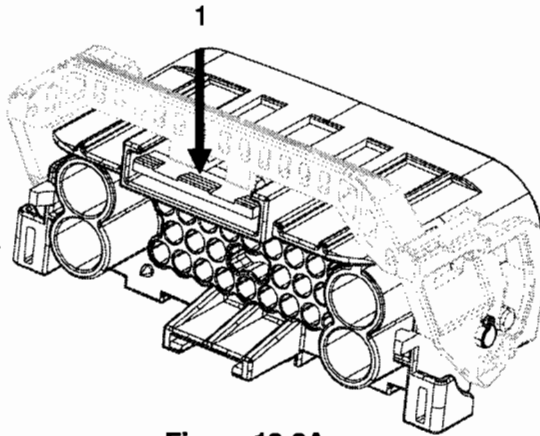

Figure 12-2A
1. Release the housing lock by pushing the operation pad of the housing lock in the direction of arrow 1 (see figure 12-2A).